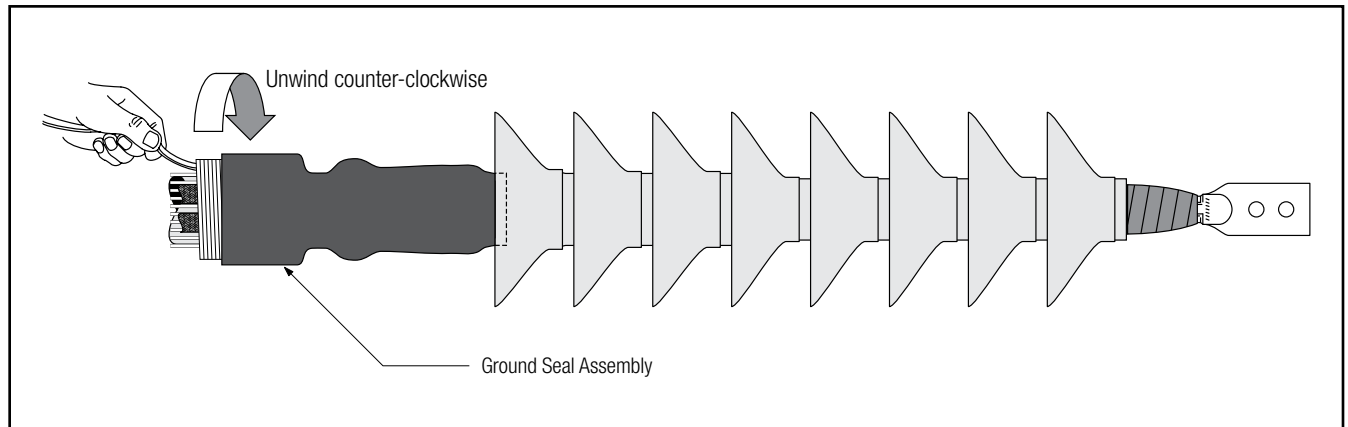

Figure 29
- 8.1 Slide the parked cold shrink silicone rubber ground seal assembly onto the termination. Start to shrink underneath the first skirt. Remove the core by pulling the loose core end while unwinding counter-clockwise. (*Figure 29*)